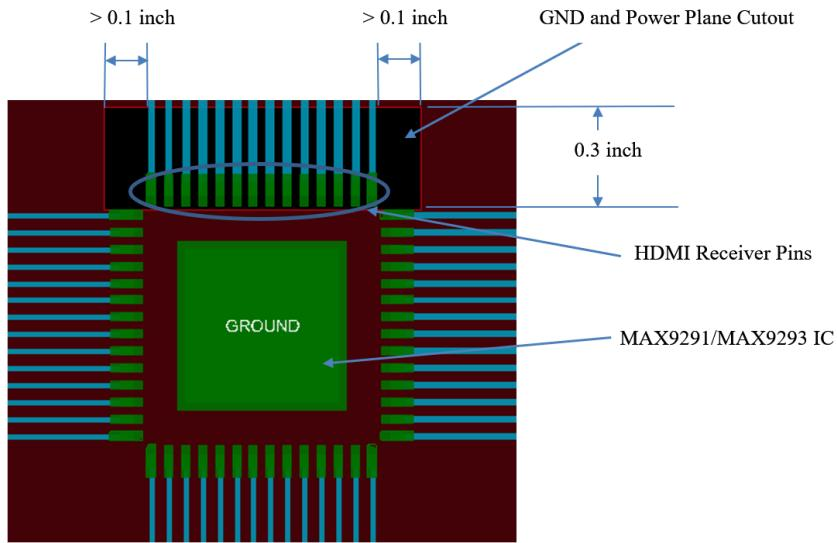

Figure 16. *Ground and Power Plane Cutout*
- Cut out any GND and power copper planes minimum of 45mils below traces at the HDMI receiver (HDMI serializer). See Figure 16 for dimensions.